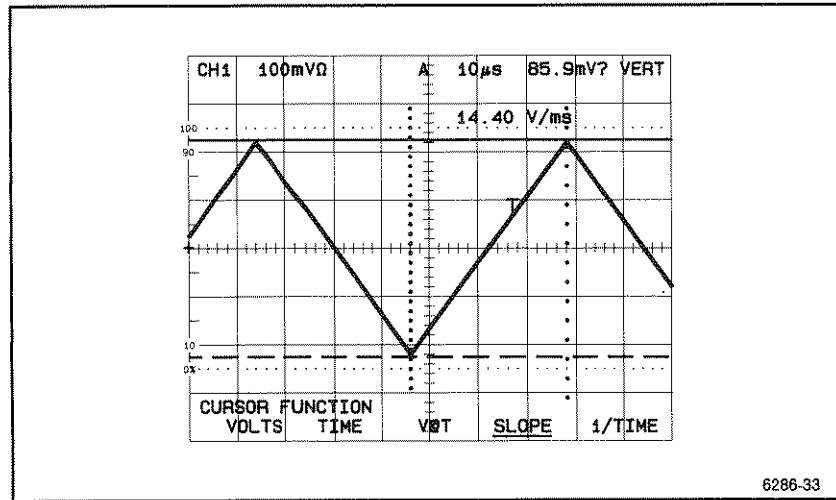

Figure 3-17. Slope measurement on a triangle-waveform.
4. The cursor readout indicates the average slope in V/s between the two points. (See Figure 3-17).